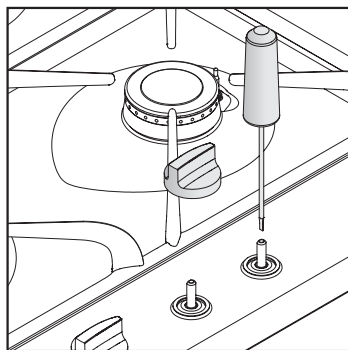

figure 6
**3** Rotate the turn down screw slowly until a minimum regular flame is achieved. (The flame will diminish when the screw is turned clockwise and increase when turned anti-clockwise (see fig.6).